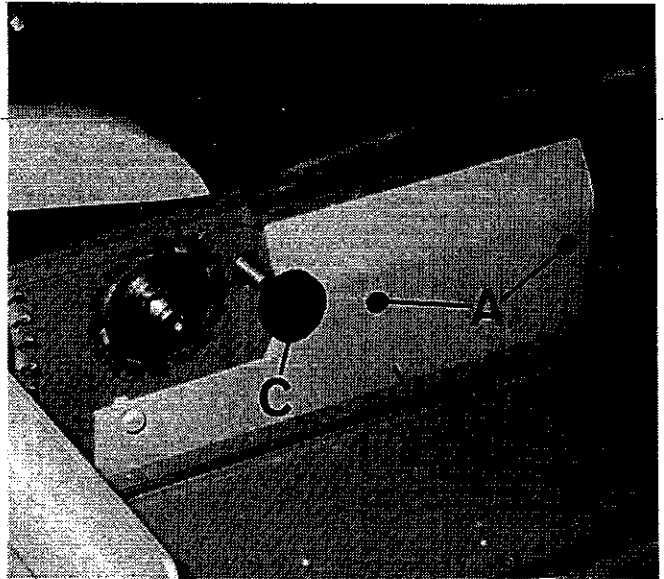

FIG. 38.
4. Loosen 2-M8 screws "A", FIG.38, and remove guard "B".
6. Turn scoring saw lateral adjustment handwheel "C", FIG.38, anticlockwise, removing handwheel and screw.